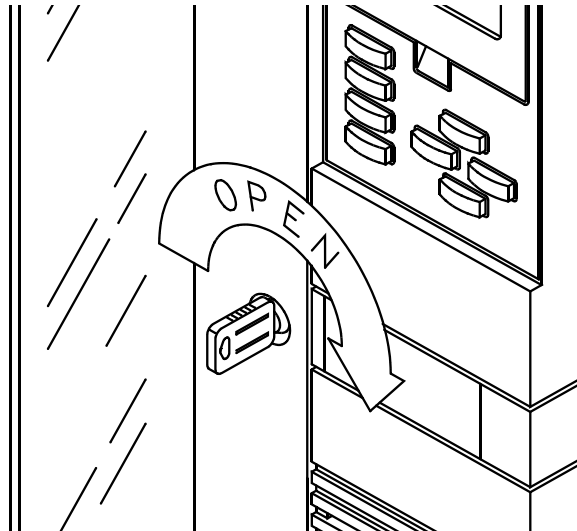

Figure 4-4 Opening the library door
1. Insert the key in the lock, push in, and turn it one quarter turn to the right, as shown in Figure 4-4.